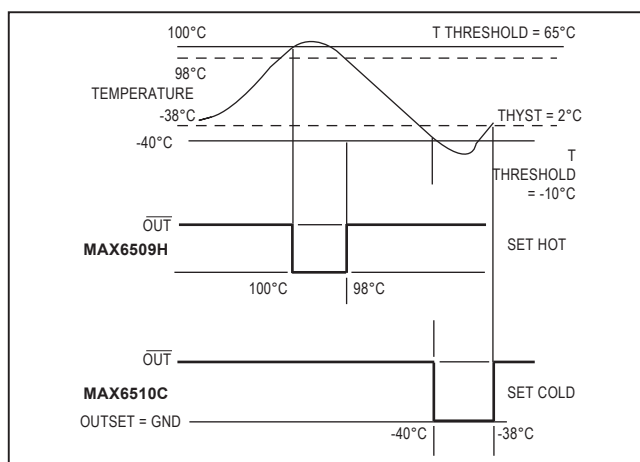

Figure 4. Temperature Response
Choose the set-hot temperature (H) or set-cold temperature (C) option to ensure that the trip point is accurate and the hysteresis is in the right direction. A MAX6509 or MAX6510 with the H suffix will first trip at the correct point when temperature is increasing. For example, a MAX6509HAUK+T or MAX6510HAUT+T with its trip point set to 100°C will assert when its temperature rises above +100°C, and will not deassert until its temperature drops below +100°C minus the selected hysteresis value (e.g., +98°C if 2°C hysteresis is chosen). Conversely, if the trip temperature of a MAX6509CAUK+T or MAX6510CAUT+T is -40°C, the output asserts at -40°C as temperature falls, and deasserts when temperature rises above -40°C plus the hysteresis value (e.g., -38°C if 2°C hysteresis is chosen) as shown in Figure 4.